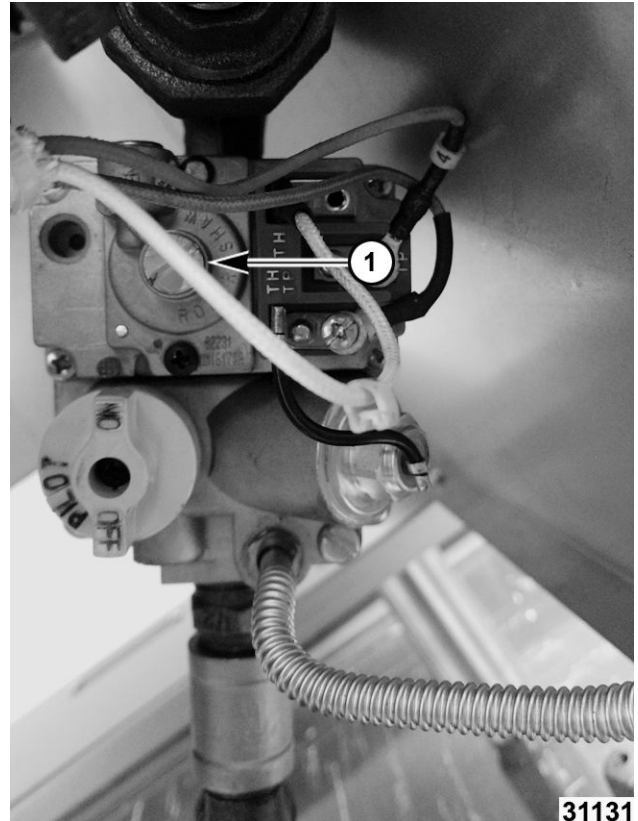

Fig. 40
- A. Remove the cap covering adjustment screw (1, Fig. 40):